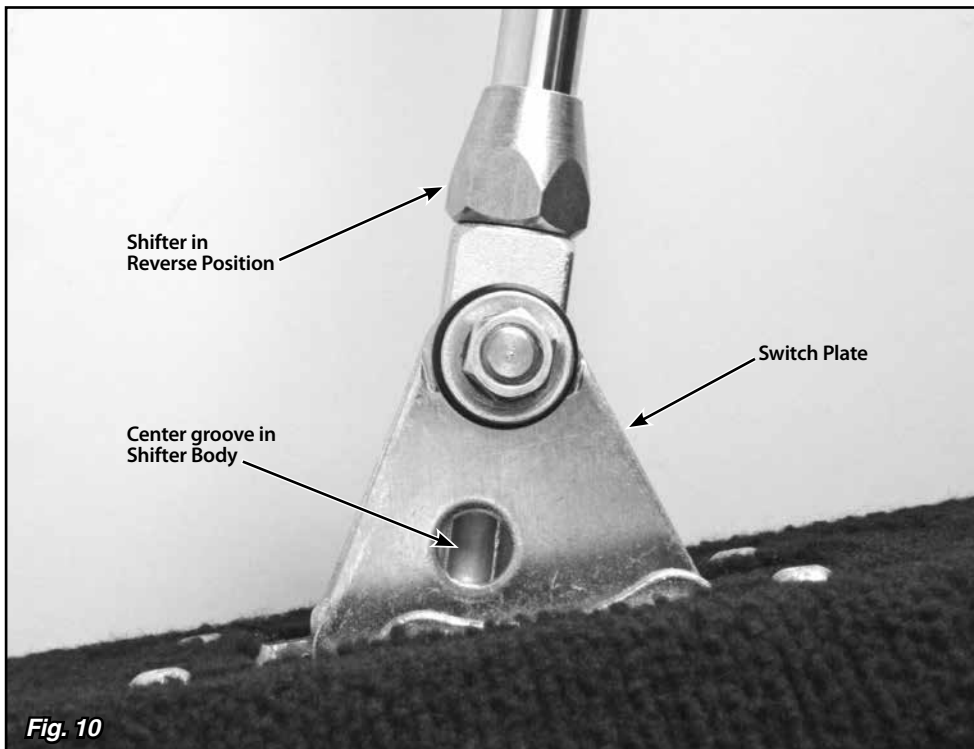

Fig. 10
**Step 16:** Put the shifter into the Reverse position. Reposition the switch plate so that the hole in the switch plate lines up with the center groove in the shifter body. **Fig. 10** Screw the provided aluminum adjuster plug into the neutral safety switch opening. Wiggling the switch plate slightly forward and back while you are screwing the aluminum adjuster plug in will help get the shifter body centered on the adjuster plug. **Fig. 11**
- **If there are (2) connections for a neutral safety switch**, run a #12 (or heavier) stranded wire from these terminals in your fuse panel to the (2) terminals on the neutral safety switch. That completes the Neutral Safety Switch wiring.